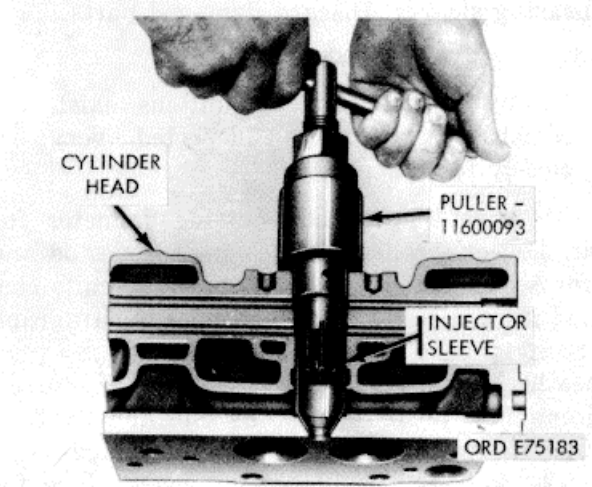

Figure 3-27. Injection sleeves-removal/installation.
- c. Using injector sleeve puller (19, fig. B-28) remove injector sleeves as shown in figure 3-27.